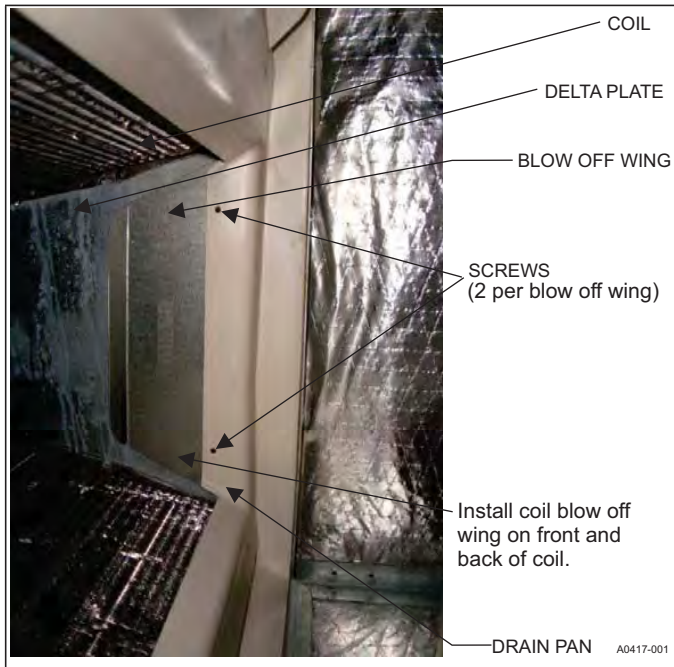

FIGURE 6: Coil Blow Off Wing Installation
- For horizontal right applications, install front and back coil blow off wings (blow off wings shipped as loose parts with the unit). Locate 4 screws securing coil delta plates to coil drain pan. Loosen the screws. Slide each coil blow off wing between the drain pan and the coil delta plate. Tighten screws to securely anchor coil blow off wings. Refer to Figure 6.